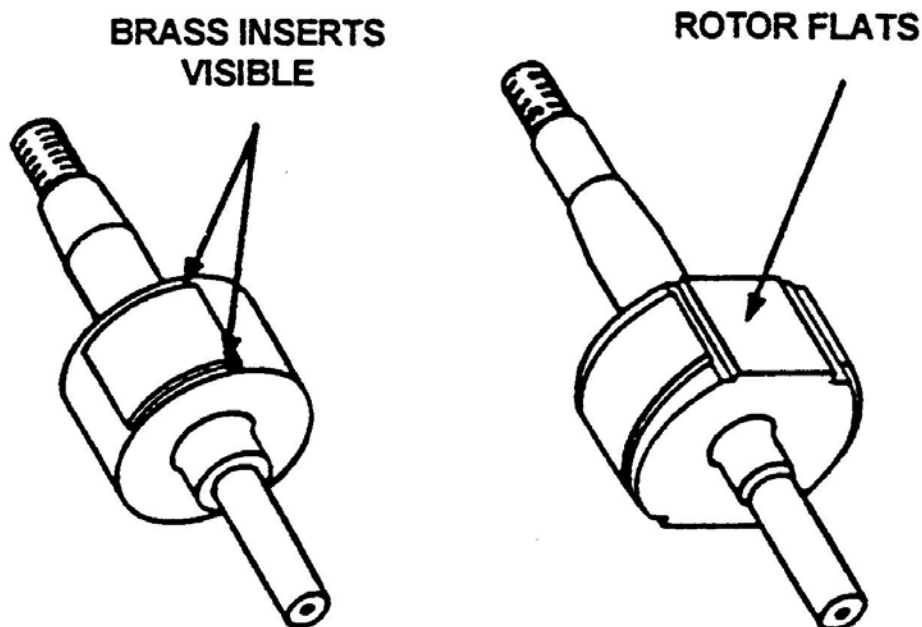

Figure 1. Rotating Magnet Types to be replaced
- B. ROTATING MAGNETS: (S-20, S-200, S-600 Series Magnetos only) Disassemble magneto as specified in the current applicable service manual to allow full visual inspection of the largest diameter of the rotating magnet surface. Rotating magnets which display the characteristics shown in Figure 1 (i.e. flat magnet sides or brass lamination inserts) must be replaced.